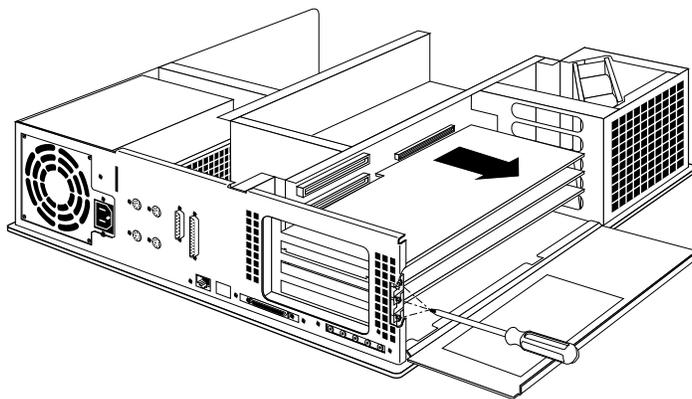

Figure 11 Removing the graphics board set from the Indigo² chassis.
4. Remove the screws attaching it to the system slots as shown in Figure 11.